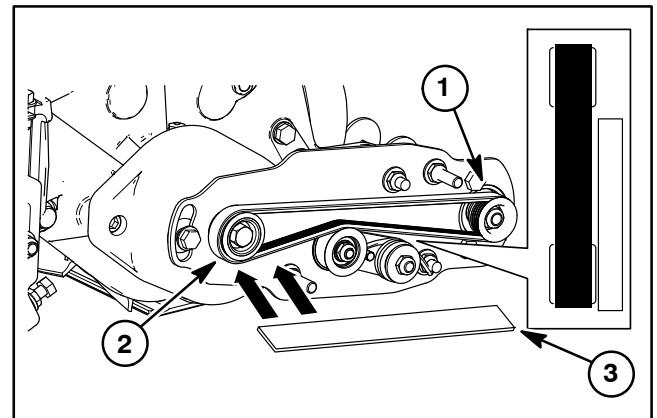

Figure 54
3. After assembly (including drive belt installation), check alignment of pulleys with a straight edge placed along the outer face of the drive pulley (Fig. 54).